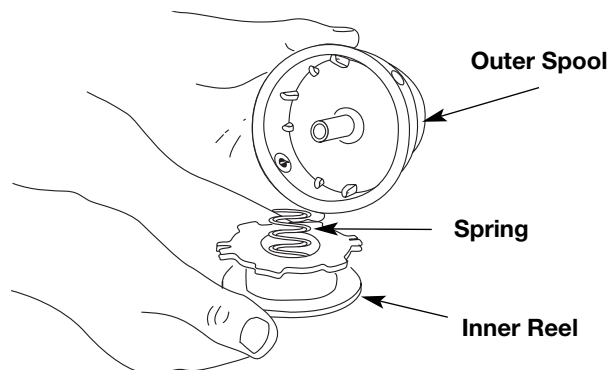

Fig. 17
2. Remove the inner reel from the outer spool (Fig. 17).
3. Remove spring from the inner reel (Fig. 17).
- Remove the old inner reel from the outer spool (Fig. 17).
- Remove the spring from the old inner reel (Fig. 17).